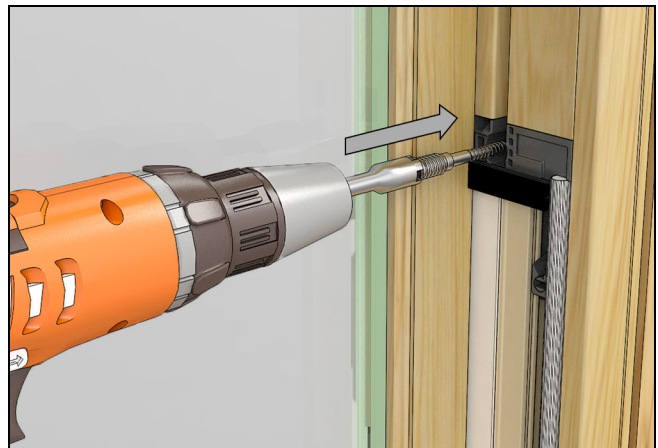

Figure 27
2. Using GRK's Top Star™ Crown and T15 Star bit system install the Top Star™ fastener into the jamb/jamb receiver. Using Torx bit, adjust the jamb position as needed. See Figure 27.